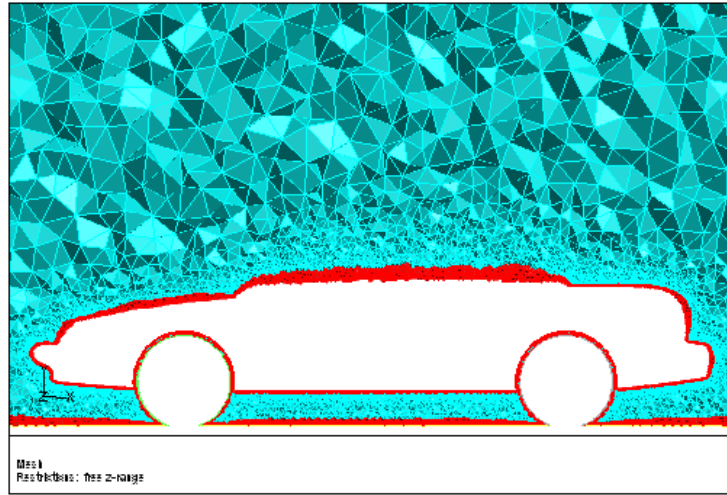

Figure 4.6: Slide of Cells at $z = 0.38$
- (c) Enable **All** in the **Options** group box and click **Display** (Figure 4.6).